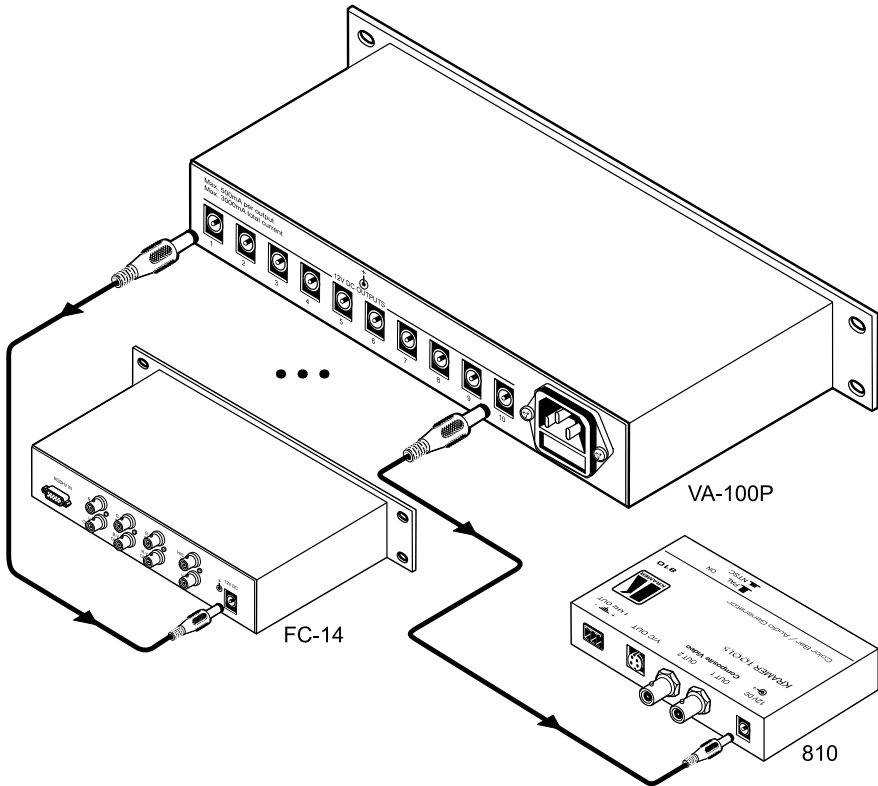

Figure 2: Connecting the VA-100P Power Supply
| Figure 2: Connecting the VA-100P Power Supply | 3 |
To use your **VA-100P**, as the example in Figure 2 illustrates, do the following:
1. Connect up to 10 power outlets, using DC-to-DC cables¹. The example in Figure 2 illustrates how to connect the *12V DC OUTPUT 1* power outlet to the *12V DC* power inlet on a Kramer **FC-14 RGBHV to Component Transcoder**, and how to connect the *12V DC OUTPUT 10* power outlet to the *12V DC* power inlet on a Kramer Tools **810 Color Bar / Audio Generator**.